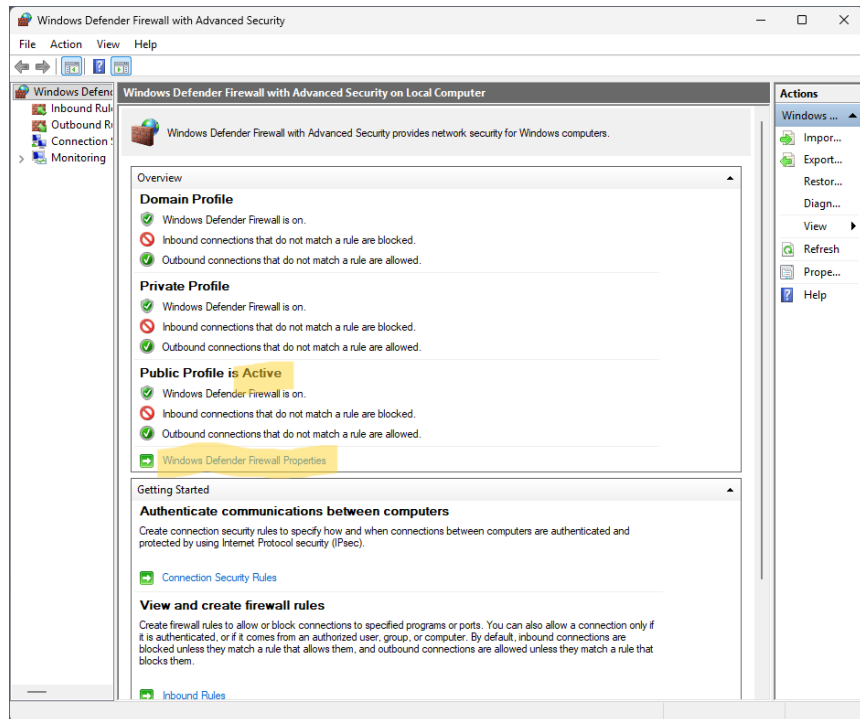

Figure 54 Windows Defender Firewall with Advanced Security showing the active public profile and access to firewall properties.
3. In the Windows Firewall with Advanced Security window, note the active network profile (for example in Figure 54, Public). Click **Windows Defender Firewall Properties**.